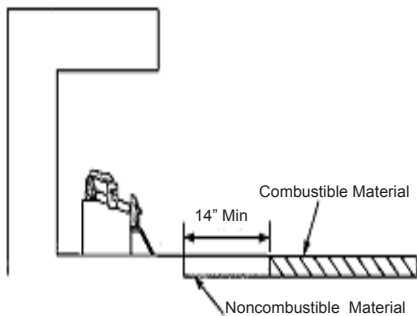

Figure 7 - Minimum fireplace clearances if installed at floor level
a) If installing appliance on floor level, you must maintain the minimum distance of 14 inches to combustibles (see Figure 7).